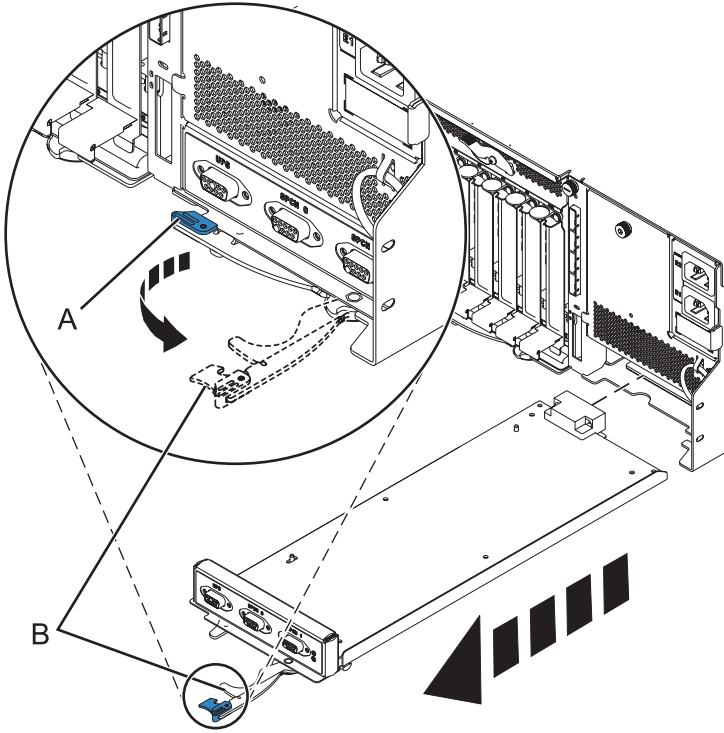

Figure 99. Remove the enclosure management controller
- b. Pinch the latch (A) to unlock the handle (B). See Figure 99 on page 132.